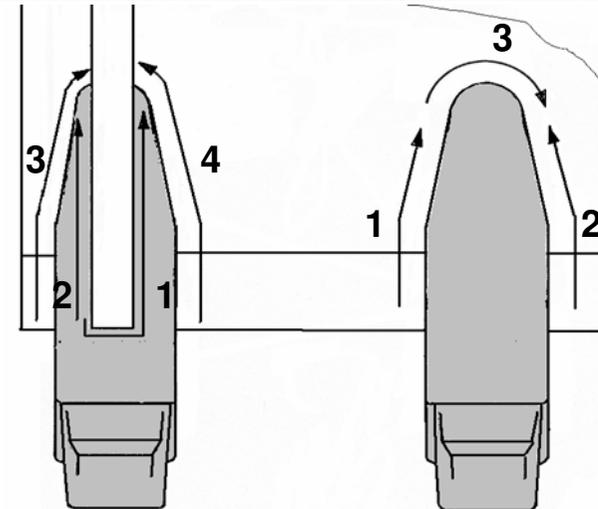

Fig 1
- ❑ Complete all welding on the top side of the edge first. Follow welding sequences as shown in figure 1.